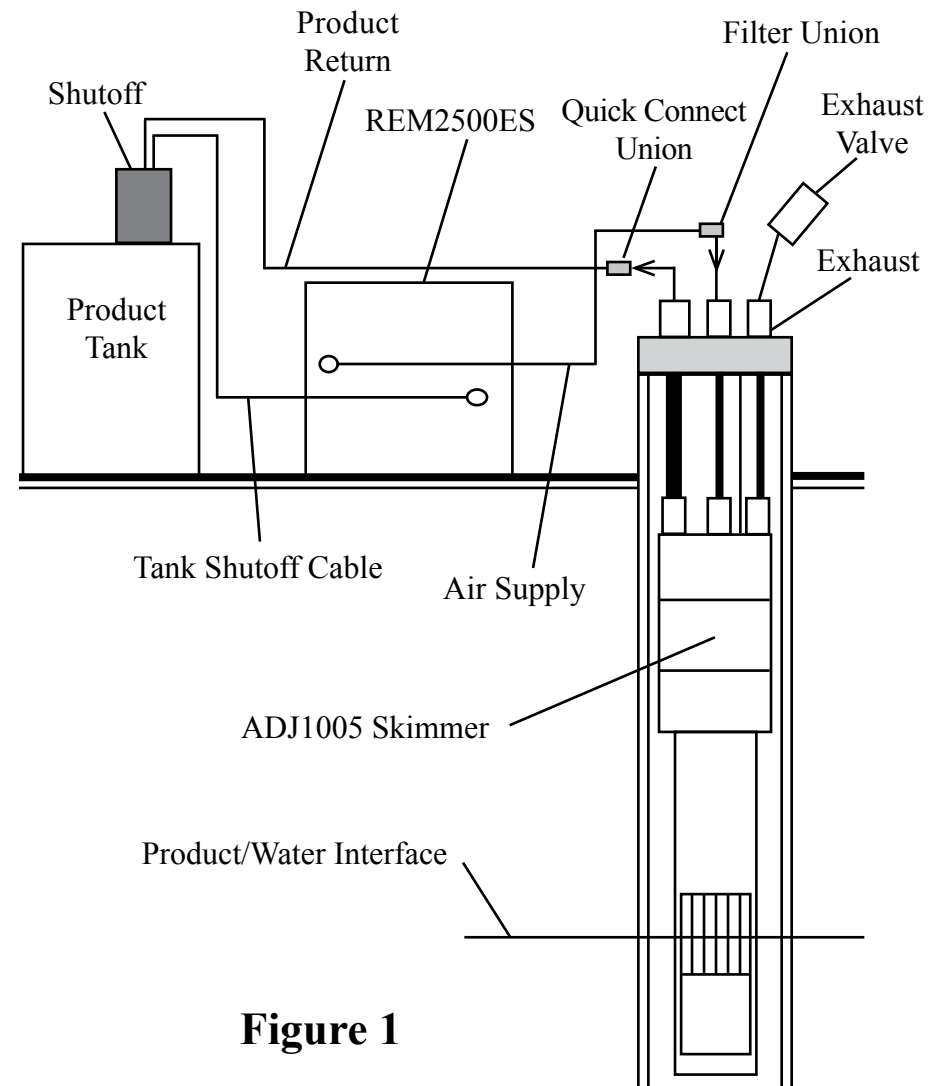
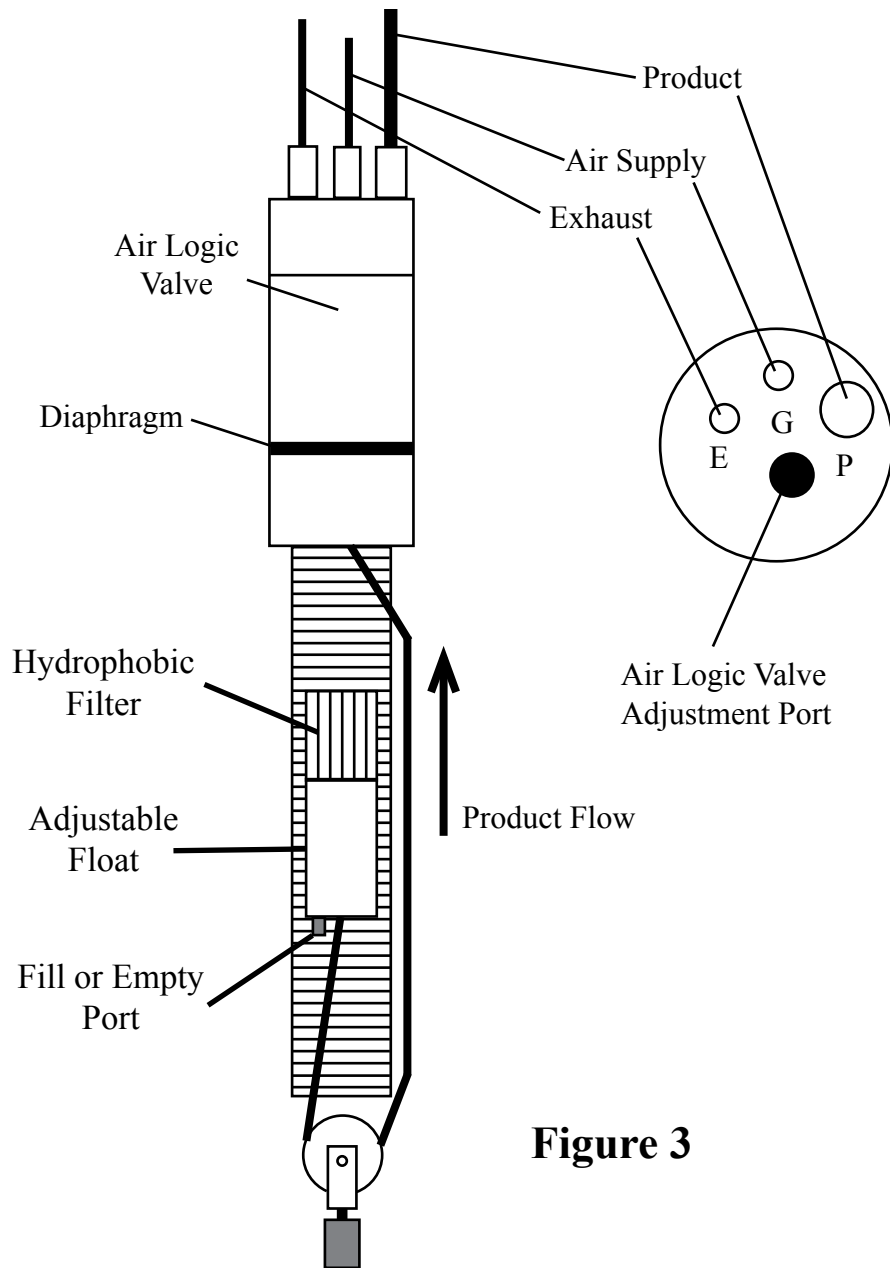

Figure 1
Figure 3
The system (Figure 1) relates to floating hydrocarbon recovery in wells four inches in diameter and larger. This system includes: an intrinsically safe ADJ1005 pneumatic Smart Skimmer, with an adjustable float (Figure 3), which removes only the product to a sheen down to 200 feet deep; and a solar powered Control Station Model REM2500ES which operates the skimmer intermittently, records run time, and has a high level tank shutoff.
STEP 2. Install holding tank shutoff assembly into holding tank (a 2" standard pipe inlet will be required in the holding tank). The level of product in the holding tank can be set by raising or lowering the liquid level float switch rod. Plug the high level shutoff switch cable connector into the left end of the controller (Figure 1).
STEP 6. Position the skimmer and well cap on the ground near the well. **NOTE:** If the skimmer is over 60 feet deep, use a vented design skimmer. Cut a length of 3/8" OD air supply tubing to cover the distance from the top of the well down to water/product interface, plus 5 feet. Slide enough tubing through the well cap and attach the end of the tubing to the top of the skimmer tube fitting labeled "G" (Figure 3). If the product thickness is greater than 1 foot, position the skimmer's "Black Reference Line" on skimmer well screen 1 foot below top of product. If the product thickness is less than 1 foot, position the skimmer's "Black Reference Line" on skimmer well screen at the water/product interface.
STEP 7. Cut a length of 1/2" OD product tubing same length as the air supply line. Install 1/2" OD product tubing through the well cap tube fitting labeled "P" (Figure 3). Slide enough tubing through the well cap and attach the end of the tubing to the top of the skimmer tube fitting labeled "P". **CAUTION:** Do not kink the tubing.